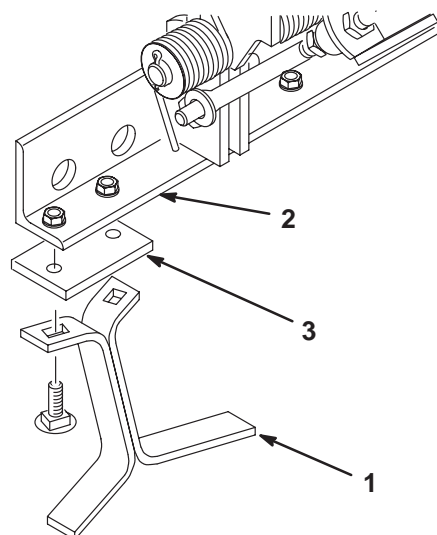

Figure 8
8. For additional ground penetration, remove the sweeps from the angle assembly and install them with spacers and longer carriage bolts supplied in the kit (Fig. 8).